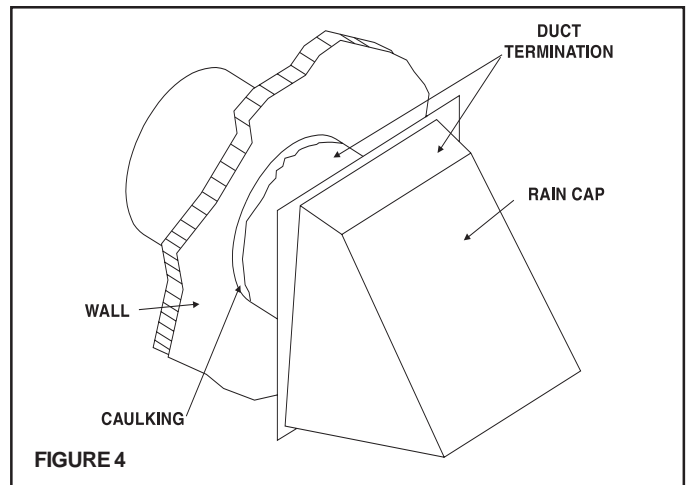

FIGURE 4
3. Slide the duct over the damper assembly collar and attach the duct to the collar using the plastic tie straps or three (3) screws (screws not provided). Continue attaching the ducting together using three (3) screws at each joint until you have installed sufficient duct to arrive at the desired location for the outside air source.
4. Install the duct termination assembly from the outside of the home. Cut a hole in the desired location, caulk around the hole, and slide the assembly through the opening from outside the home. Secure in place with screws. The assembly should be caulked around its perimeter to assure a tight seal. The opening should be positioned downward. See Figure 4.